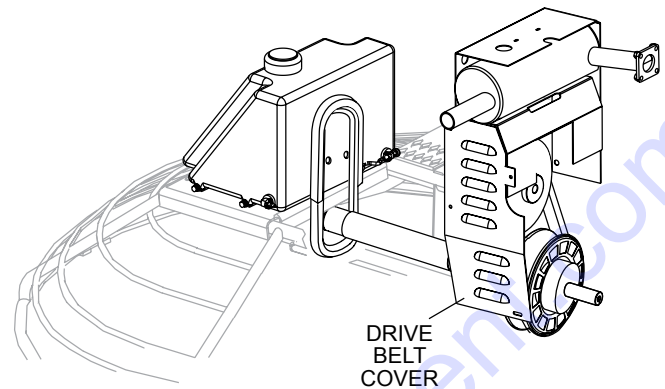

Figure 16. Drive Belt Cover
1. Remove Drive Belt Guard Cover. See Figure 16.